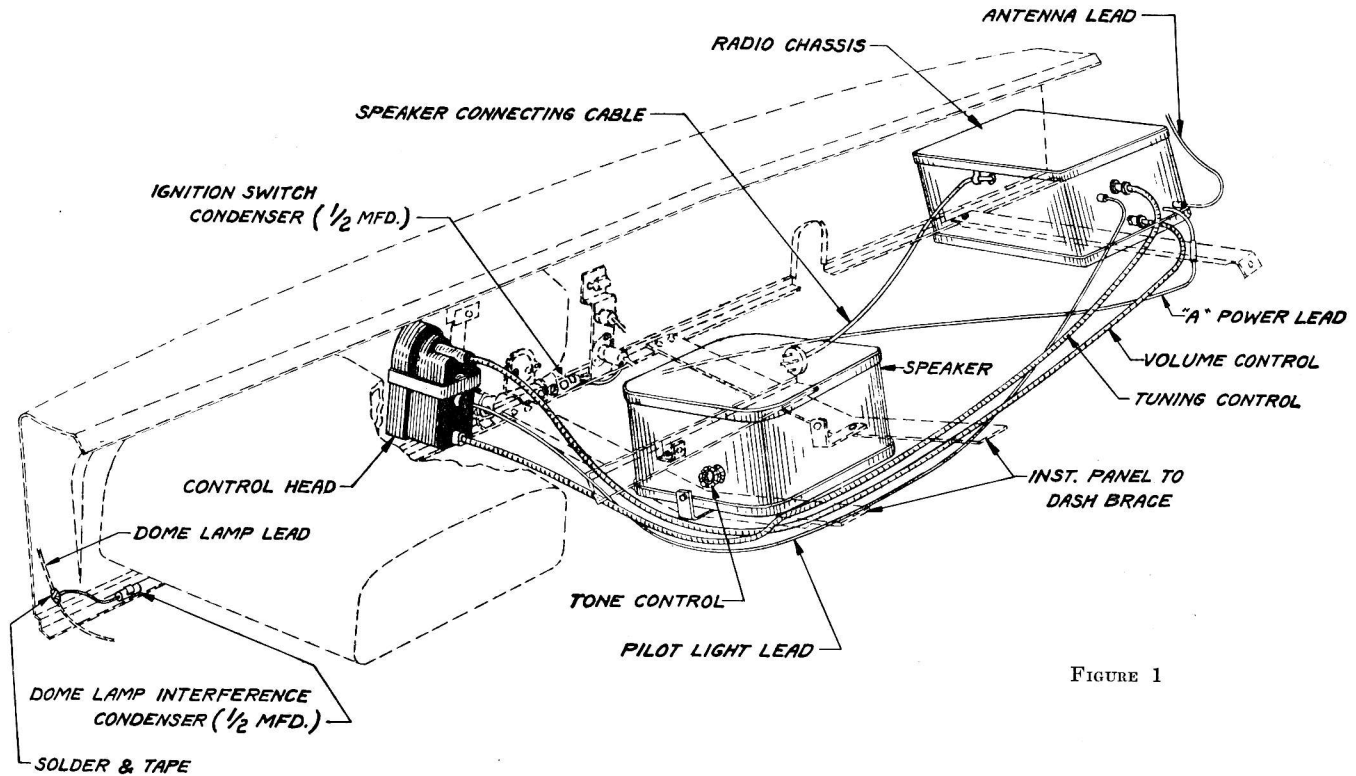

FIGURE 1
(See Figure 1)
(See Figures 1, 3 and 5)
3. The volume control flexible shaft is at the top and must be coupled in the lower shaft bushing on the end of the Receiver housing (see Figure 1). The knurled shaft nut must be tightened securely.
6. The tuning control flexible shaft must be coupled in the proper shaft bushing on the end of the Receiver housing (see Figure 1). The knurled shaft nut must be tightened securely.
7. Connect the terminal on the pilot light wire to its receptacle on the end of the Receiver housing (see Figure 1).
8. Connect the antenna lead to its receptacle on the end of the Receiver housing (see Figure 1).
The tone control knob is on the right hand side of the speaker housing (see Figure 1). It should be adjusted to the tone most pleasing. There are four (4) positions: brilliant, bright, mellow and deep. Speech is clearest when in bright or brilliant, while usually orchestras will sound best on bright or mellow.